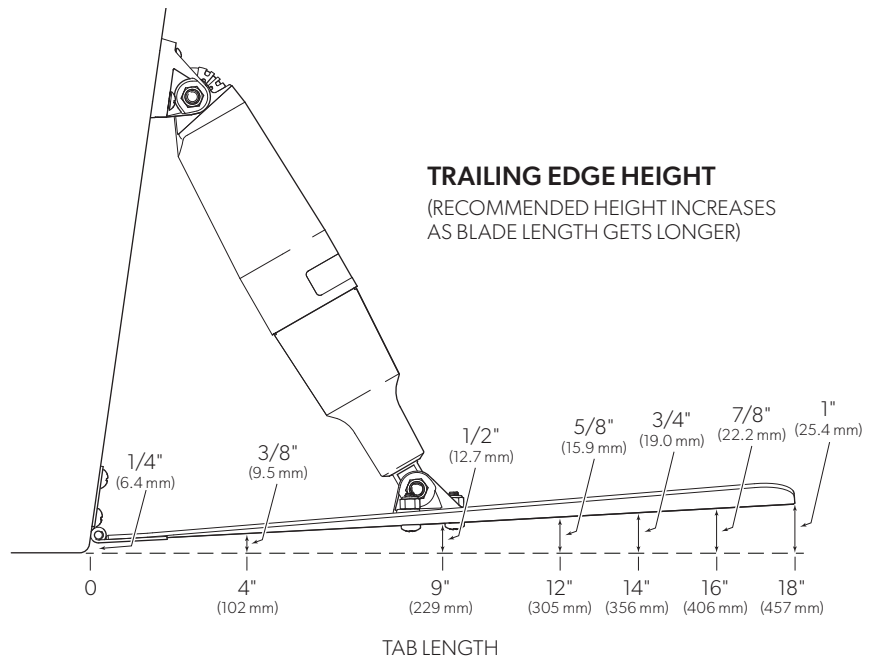

Figure 12-4.
- To ensure the tabs do not drag when retracted, they must be tilted up from the hull level. The longer the tab, the greater the height above the hull level at the trailing edge of the tab, as shown in figure 12-4.